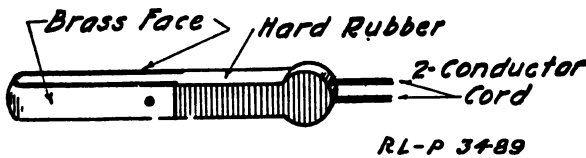
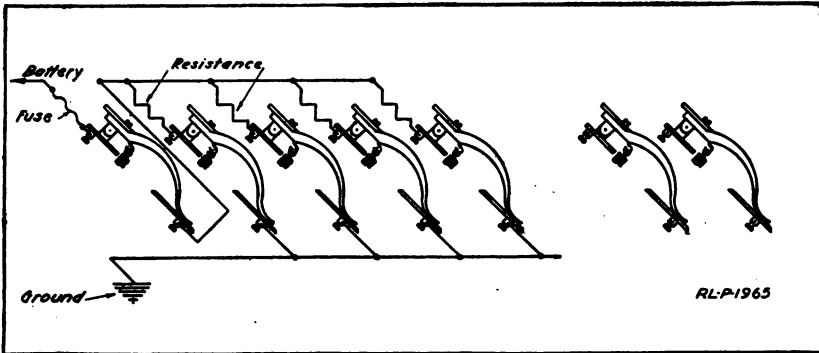

Fig. 44.—Wedge
Fig. 45.—Jack position
c. At the left of the instructor's position should be installed a set of jacks. Above the jacks are receptacles for resistance units and, in front of them, holes bored through the table. If possible, a commercial telegraph wire should be available for receiving practice. It should be equipped with a Morse relay, the local points of which are extended to the jack position (Fig. 45) by means of a cord terminating in a wedge (Fig. 44). This wedge may be inserted in jack No. 1, where it will act as a key to operate sounders connected to jacks Nos. 2 to 5.
ceptacles. (See Fig. 45, which is a side view of the jacks separated.) This places No. 1 jack in series with the power; therefore the corresponding receptacle should have a fuse instead of a resistance unit. All the jacks and the corresponding resistances are in multiple from the battery lead to the ground.
*e.* Each student's set is connected to a wedge. (Fig. 44.) The wires from the instruments are carried under the table to the instructor's position. Here they connect to the double conductor cord which passes through one of the holes in front of the jack and which connects to a double conductor wedge.